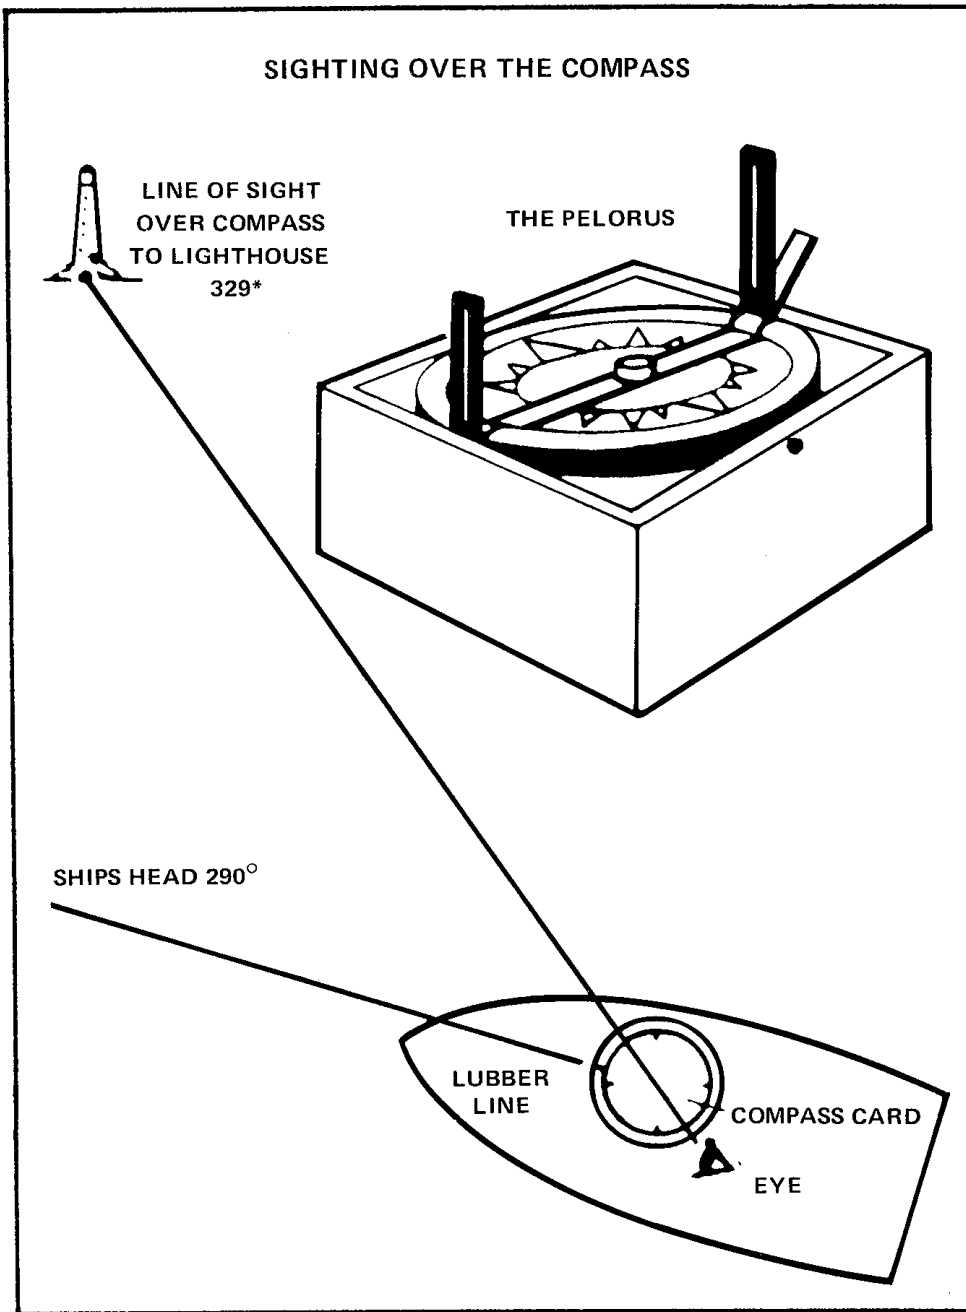

Figure 7-30 Sighting Over the Compass
99. **Taking a Fix** — In Figure 7-30 the vessel, on course 310° (M), was on **the range**, as plotted, at 1435 (2:35 p.m.). At the same time the **flashing red light was bearing 344° (M)**, as observed by the pelorus. A line is plotted on this bearing, from the area of the ship's position, to pass through the FIX chart symbol. This line is labelled with an arrowhead, the time and the bearing, as shown, which identifies it as a plotted observation. The fix itself, at the intersection of the two LOPs, is marked by a small circle, labelled, with the time, thus: "1435 Fix."